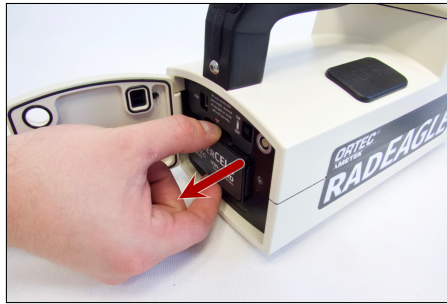

Figure 131: Removing the POWERCELL from the RADEAGLE
5. Grab the POWERCELL and pull it backwards from the battery compartment (Fig. 131, p. 110).